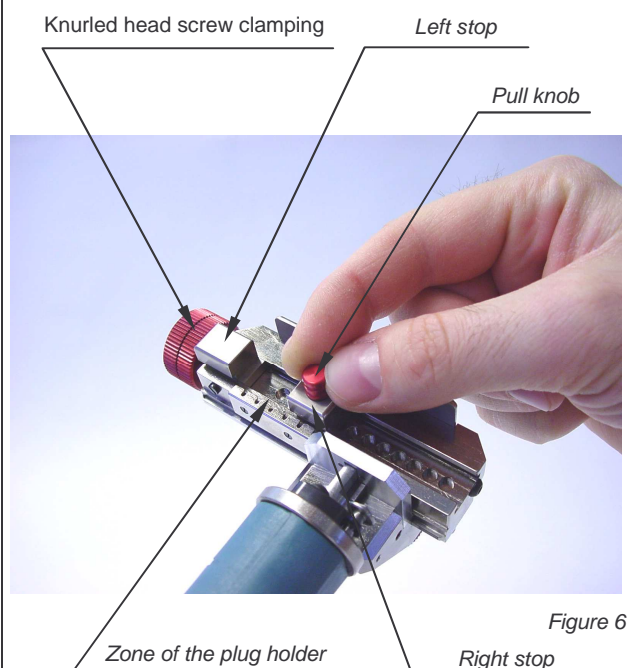

Figure 6
2. In order to pre-set the zone of the plug holder to the correct casing length, lift up the red pull knob of the right-hand stop and slide it in the raster to the required length (see figure 6).